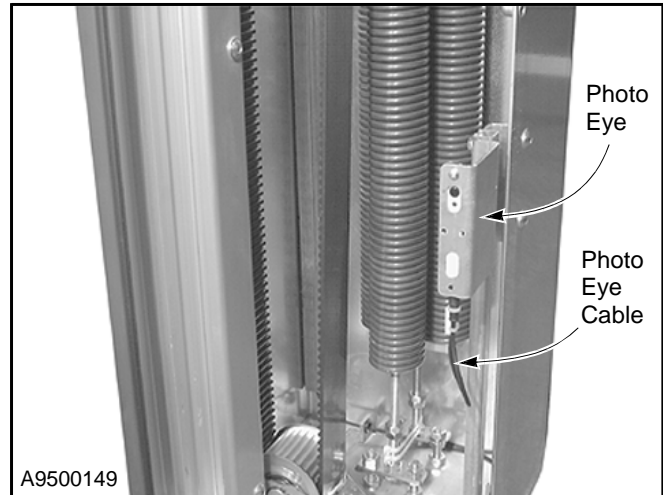

Figure 37
1. Locate each factory-installed photo eye module and its required wire cable. (See Figure 37.)